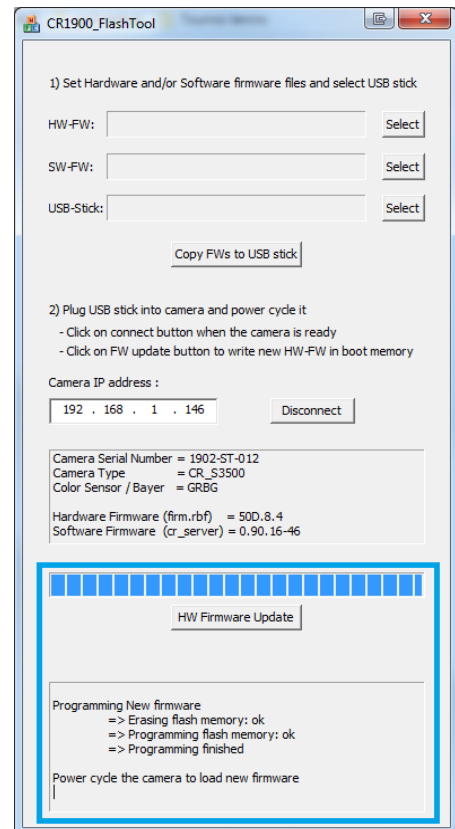

Figure 34: Update finished
5. When Update is finished (see Figure 34), power cycle the camera.